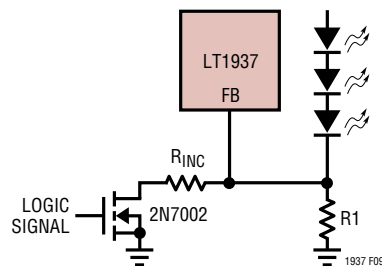

Figure 9. Dimming Control Using a Logic Signal
For applications that need to adjust the LED current in discrete steps, a logic signal can be used as shown in Figure 9. R1 sets the minimum LED current (when the NMOS is off).  $R_{INC}$  sets how much the LED current increases when the NMOS is turned on. The selection of R1 and  $R_{INC}$  follows formula (1) and Table 4.